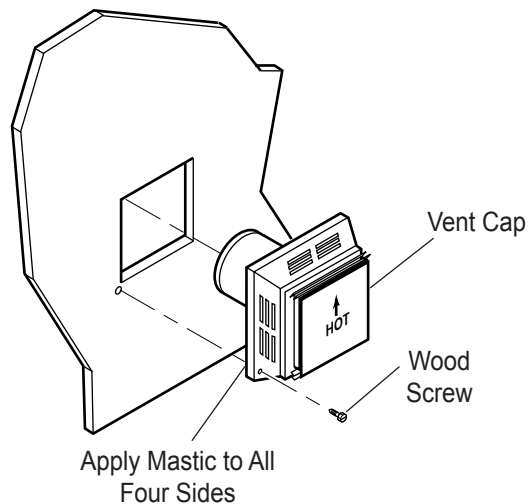

Figure 14 - Installing Horizontal Vent Cap
4. Apply a bead of non-hardening mastic around the outside edge of vent cap. Position the vent cap in the center of hole on the exterior wall with the arrow up on the vent cap. Insure proper clearance of 1" to combustibles is maintained. Attach the vent cap with four wood screws supplied. See Figure 14.